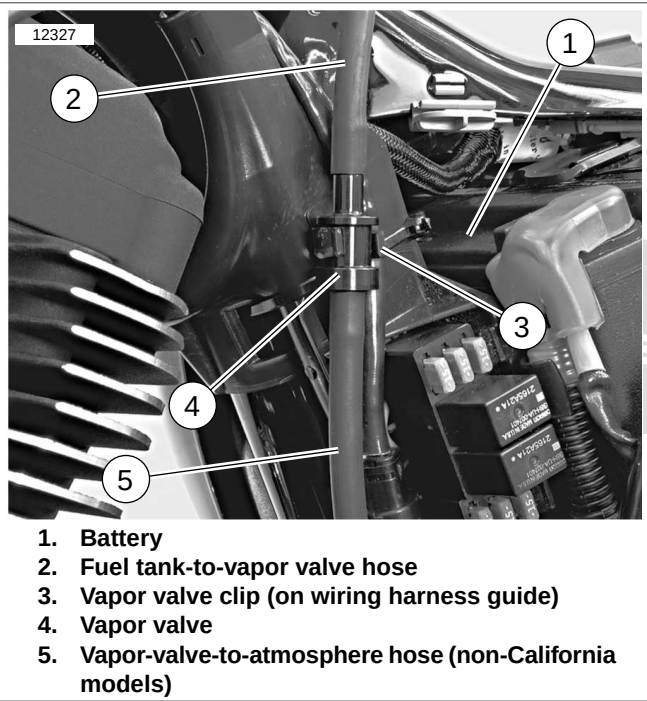

Figure 4-11. Vapor Valve Assembly
See Figure 4-11. The fuel tank vent hose (2) is connected to a vapor valve (4) located beneath the seat in front of the battery tray. On non-California models, another hose (5) vents the vapor valve to the atmosphere. On California models, that hose is routed to the charcoal canister. See 4.21 EVAPORATIVE EMISSIONS CONTROL \(CA MODELS\).